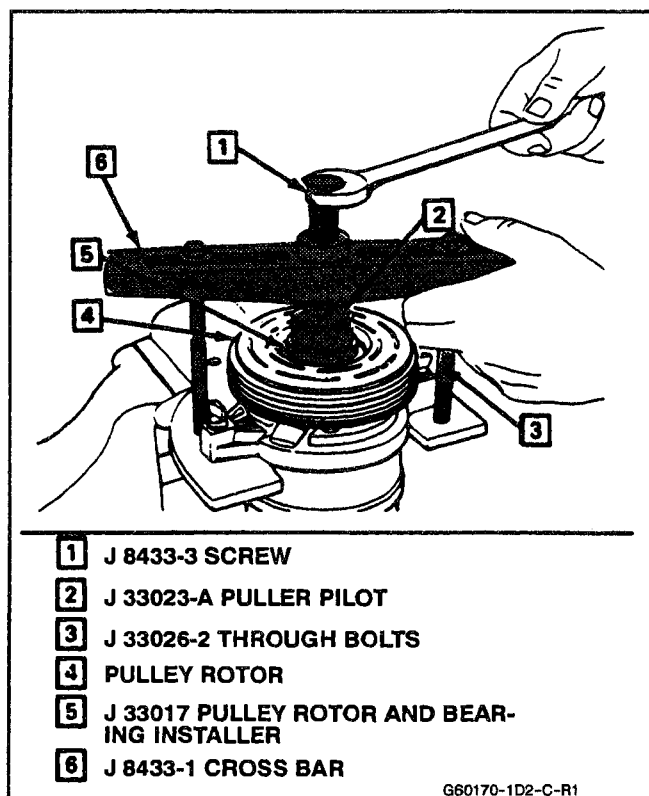

Fig. 13 Installing Pulley Rotor and Bearing Assembly
5. With the compressor mounted to the J 33026 holding fixture, position the rotor and bearing assembly on the front head (Fig. 13).
6. Position the J 33017 pulley, rotor and bearing installer and J 33023-A puller pilot directly over the inner race of the bearing (Fig. 13).
7. Position puller crossbar J 8433-1 on the puller pilot J 33023-A and assemble the two J 33026-2 through bolts and washers through the puller bar slots and thread them into the J 33026 holding fixture (Fig. 13). The thread of the through bolts should engage the full thickness of the holding fixture.
8. Tighten the center screw in the J 8433-1 puller crossbar to force the pulley rotor and bearing assembly onto the compressor front head (Fig. 13). Should the J 33017 pulley rotor and bearing installer slip off direct in-line contact with the inner race of the bearing, loosen the J 8433-1 center forcing screw and realign the installer and pilot so that the J 33017 installer will properly clear the front head.